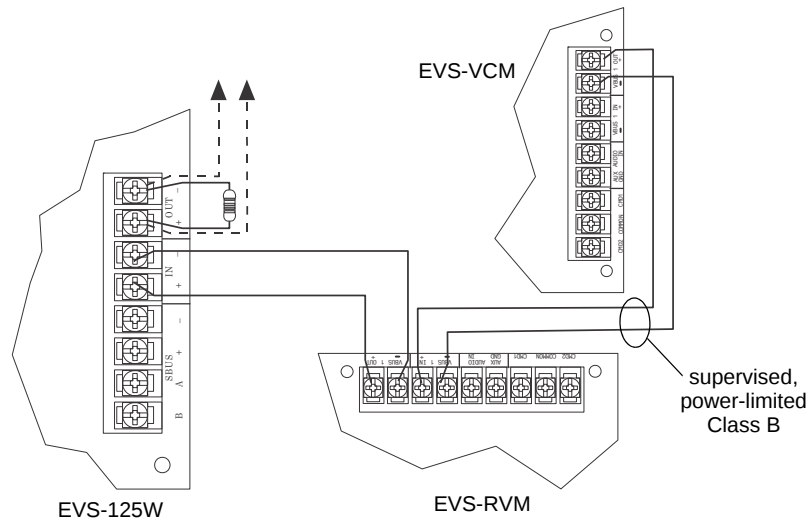

Figure 4.55 VBUS and EVS-125W Wiring for EVS-RVM using the EVS-VCM
4. Connect the EVS-RVM to the VBUS, EVS-125W, and EVS-VCM as shown in Figure 4.55.
- 3. Disconnect any devices connected to the VBUS. Refer to Figure 4.55.